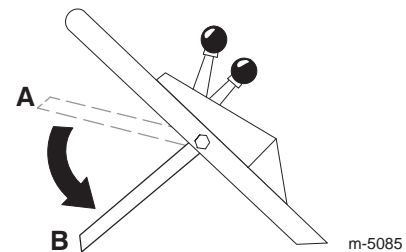

Figure 13
10. Release the control bar; refer to position **B** in Figure 13. You should hear a “bang.” The blade should stop in 3 seconds.
2. Move the control bar down to its lowest position (Position **B** in Fig. 13).